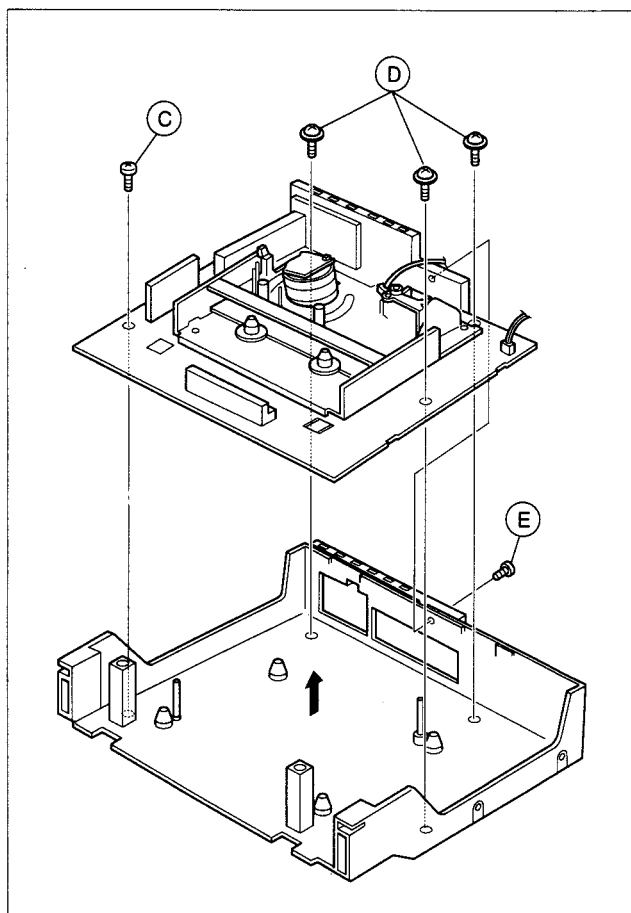

Fig. 1-4-2
- (4) Take out 3 screws (D), 1 screw (C) and 1 screw (E).
- (5) Remove the Main board and Mechanism assemblies together while holding the edge of the Main board assembly. At this stage be careful of the power cord and prongs of the jacks on the back side. (See Fig. 1-4-2.)